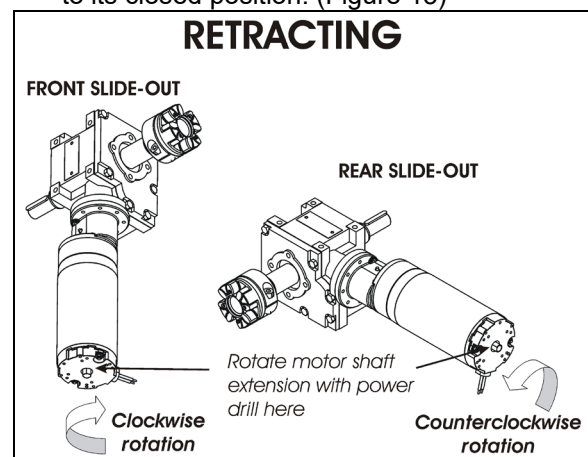

FIGURE 13: SLIDE-OUT MOTOR ROTATION
5. Rotate the slide-out motor shaft extension with the power drill until the slide-out comes to its closed position. (Figure 13)